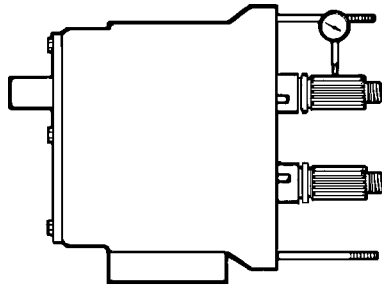

Figure 29 - Check bearings
- Check the bearings with a dial indicator for shaft radial play (Figure 29). If the deflection is equal to or greater than the rotor-to-body diametrical clearance (“Checking for Proper Clearance” on page 40), replace the bearings.